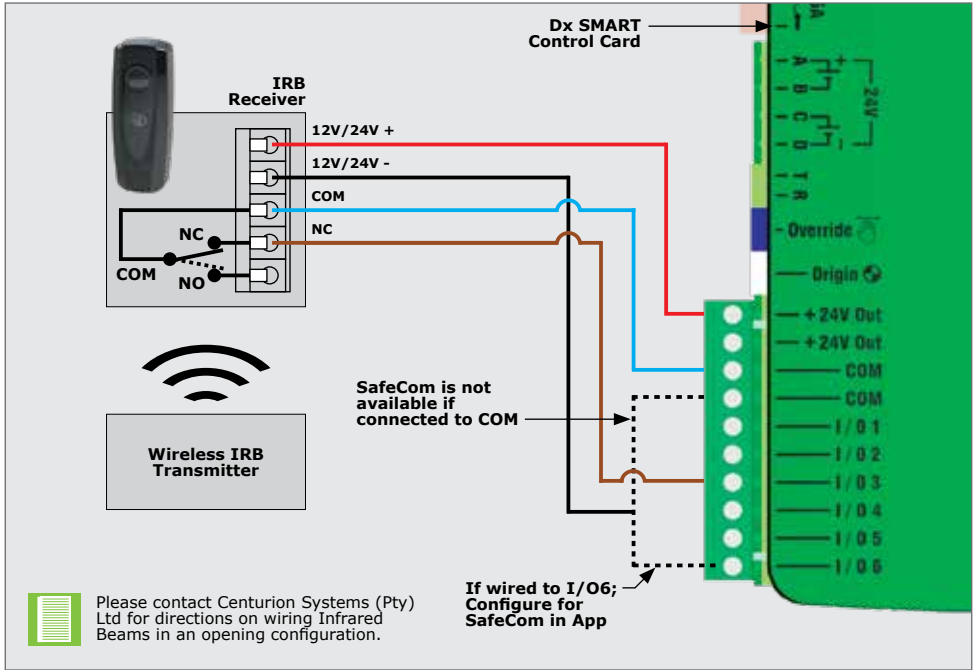

FIGURE 89
- The trigger/TRG (green wire) in Figure 89 can be wired into IO1 - IO6, depending on the sites individual needs